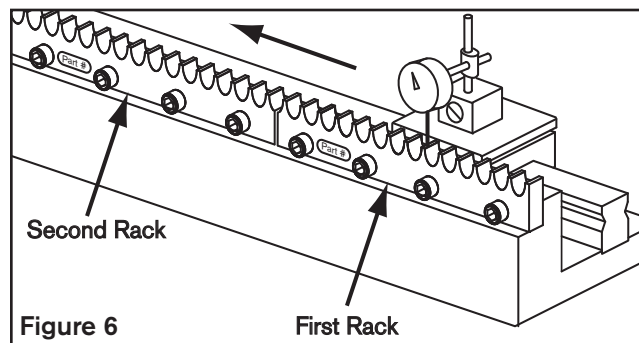

Figure 6
6. Once the rack mounting bolts are fully torqued, verify tooth peak variance is less than ± 0.03 mm [± 0.001 in.] by placing a dial indicator on the movable carriage with the indicator tip on the tooth peaks. Measure the tooth peak variance at points throughout the rack section as shown in Figure 6.